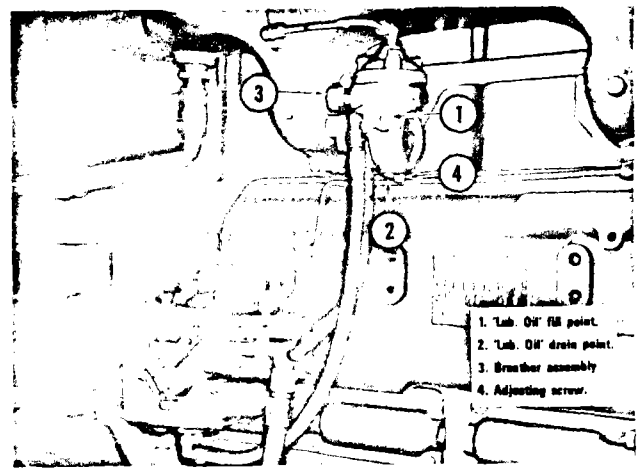

Fig. 2-64. (N10503). Aneroid
1. Remove fill plug (1, Fig. 2-64) from the hole marked "Lub oil".
Remove and replace the aneroid breather (3, Fig. 2-64).